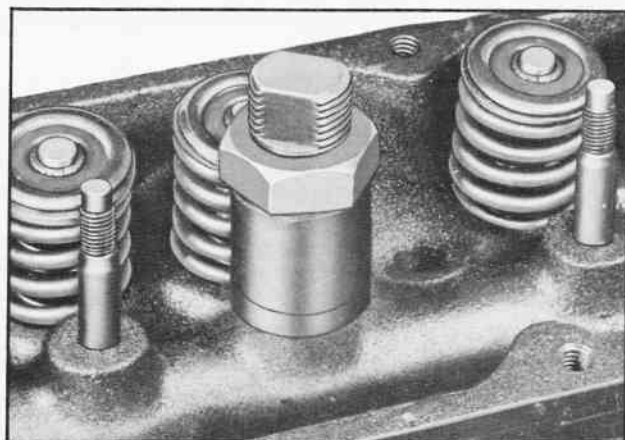

Fig. 5 J-6392 Installed for Stud Removal
5. Install spacer J-6392-2 over J-6392-1 so that it bears on washer J-6392-3. Then install 7/8"-14 standard nut. (See Fig. 5).